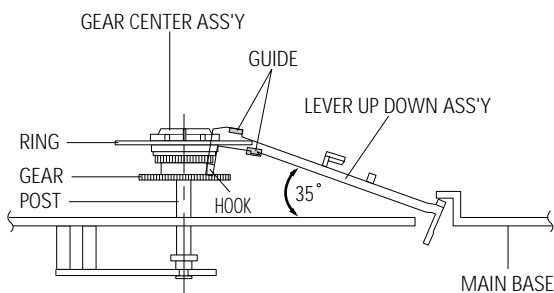

Fig. 4-27 Lever Up Down Ass'y Removal
- 1) Insert the Lever Up Down Ass'y ❶ in the rectangular holes on Main Base as shown in Fig 4-27.
- 2) Lift the Lever Up Down Ass'y ❶ about 35°.
(Refer to Fig 4-27)